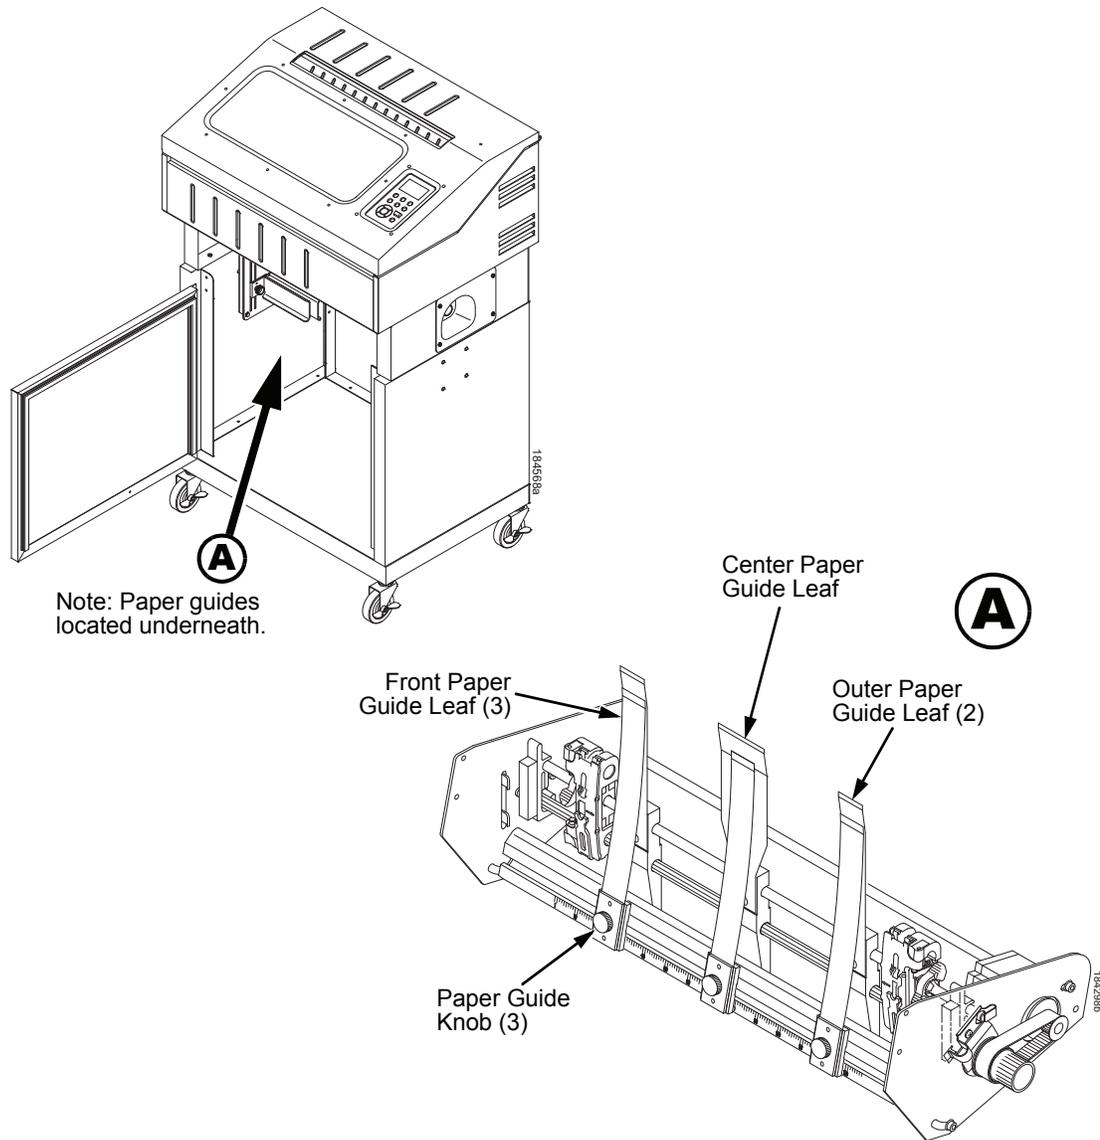

Figure 3. Adjusting The Paper Guides
1. Turn the left paper guide knob to counterclockwise to loosen the guide. (See Figure 3.)